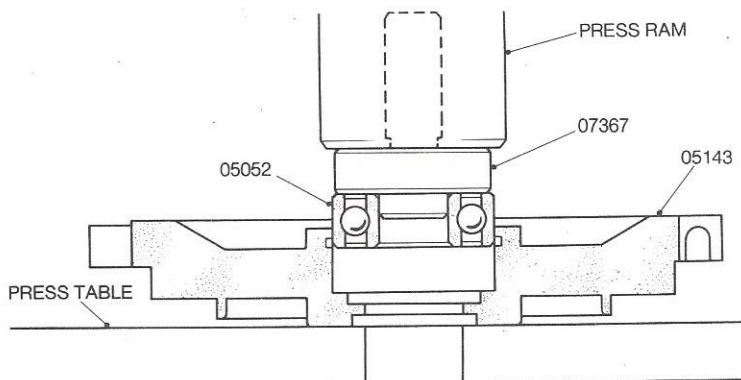

Figure 15 Assembly of the Bearing Holder Ball Bearing
- 10.3.2 Centralise the assembly under the press ram and press the bearing in to the shoulder in the Bearing Holder. See Figure 15.